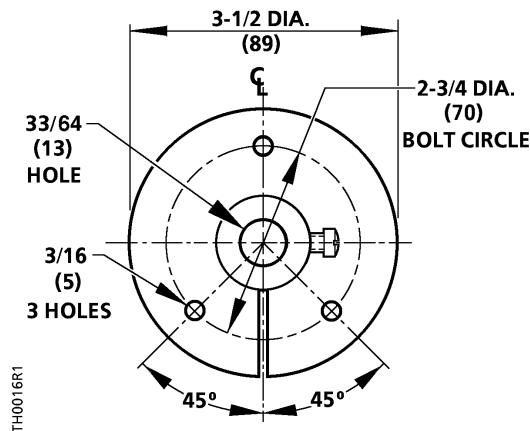

Figure 4. Mounting Flange (Part Number 808-412).
- Attach a mounting flange (Part Number 808-412, *Figure 4*) on the opposite side of the duct (near the bottom) from where the thermostat will be mounted.